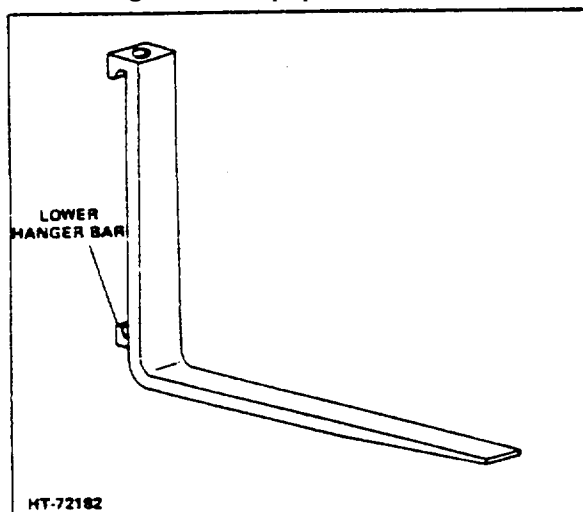

Figure 5. Hook Style Fork
Basically, there are two types of forks, the shaft style which pivots on a horizontal support shaft, and the more commonly used hook style fork (Fig 5) which hooks into notches along the top edge of the fork carriage. The standard or hook type fork will be discussed here. Any differences will be noted in shaft type removal and installation.
3. Tilt the lower portion of the fork forward and upward to release the lower hanger bar (Fig 5) from the lower carriage bar.